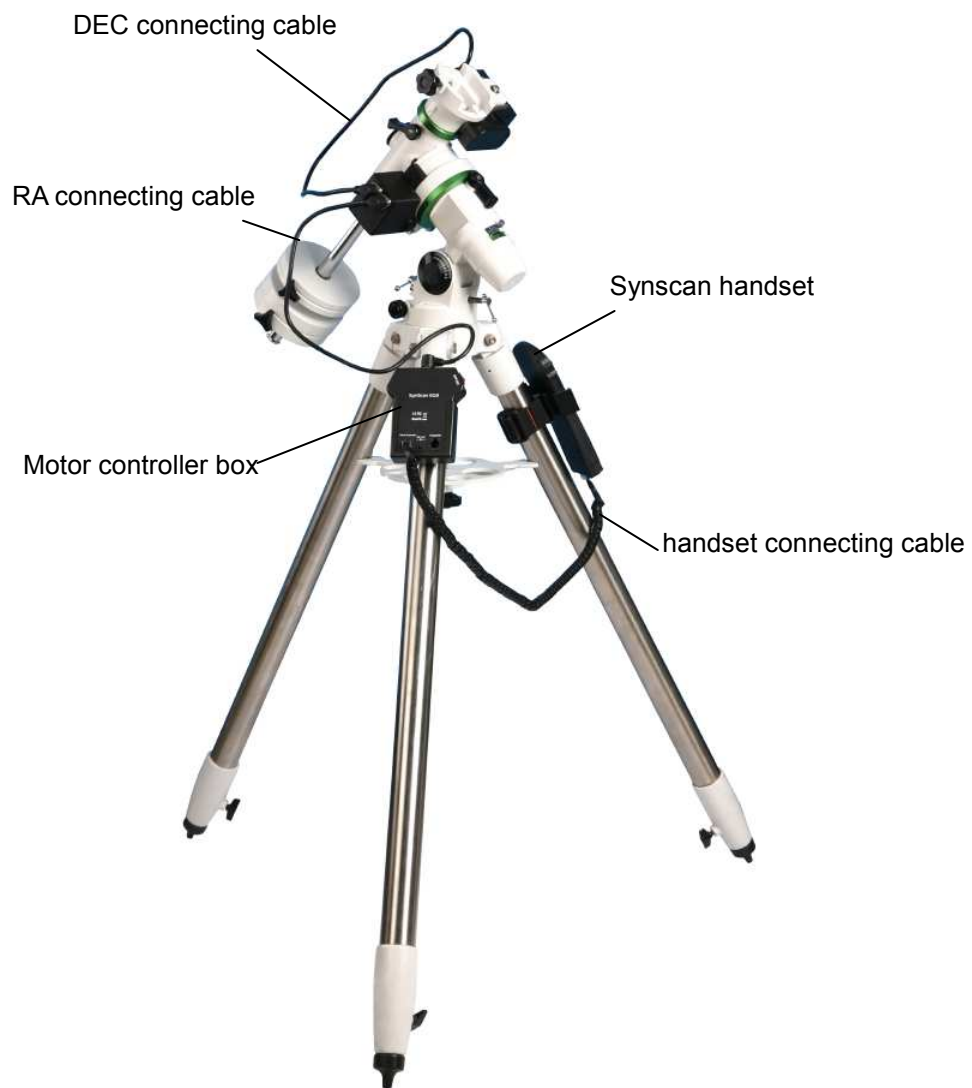

Fig 8
1.6 Installing electrical components(EQM-35 PRO automatic “goto” version only) (fig 8)